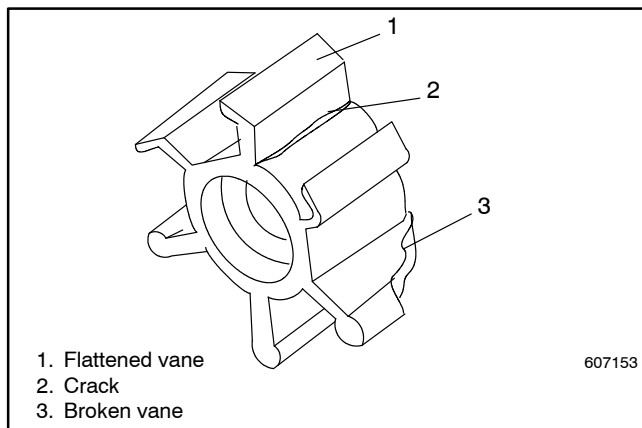

Figure 6-20 Worn Impeller
7. Inspect the impeller for damage, including cracks, broken or flattened vanes. See Figure 6-20. The impeller vanes should be straight and flexible.